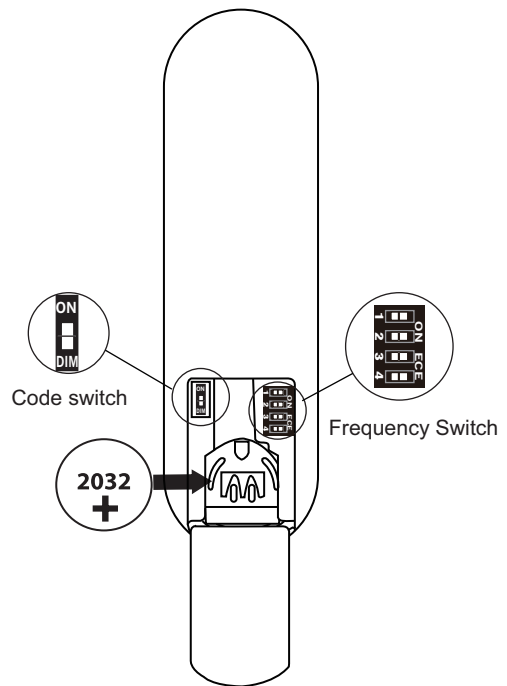

Figure 15
Insert the 3 volt battery (included) and make sure the battery is properly seated with the Positive + sign facing up. (Fig. 15)
The remote control unit has frequency settings that can be changed. The frequency settings on the remote control should only be changed if your fan experiences interference or if a second or more fans with the same type of control system are installed in the same structure. (Fig. 15)
**ON/DIM Switch:** The ON position is to be used for a light kit with CFL bulbs, the DIM position is to be used for all other dimmable style bulbs. (Fig. 15)